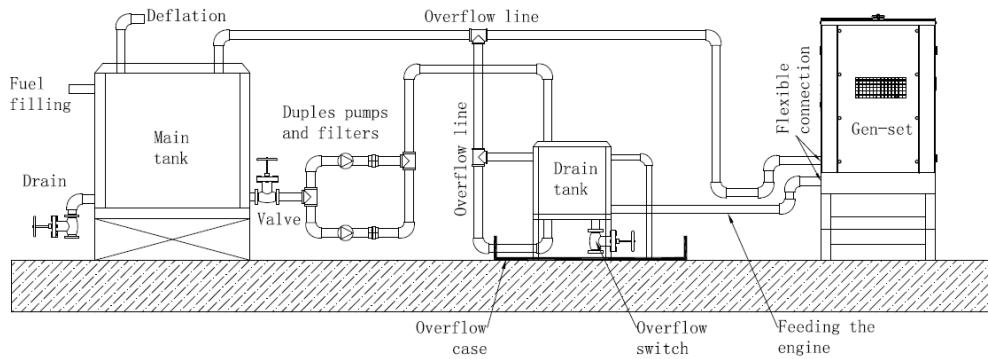

Figure 5.2 With Intermediate Fuel Tank.
### 5.6. With Intermediate Fuel Tank (Fig.5.2)
1. An automatic duplex fuel transfer pump and primary filter system arranged to start the standby pump should the duty pump fail. The transfer pump(s) must be sized to cater for the total fuel required by the engine, i.e. fuel consumed and the spill return volumes (Fig.5.2.)
The connection details for these additional items of equipment are indicated. See Fig. 5.2.